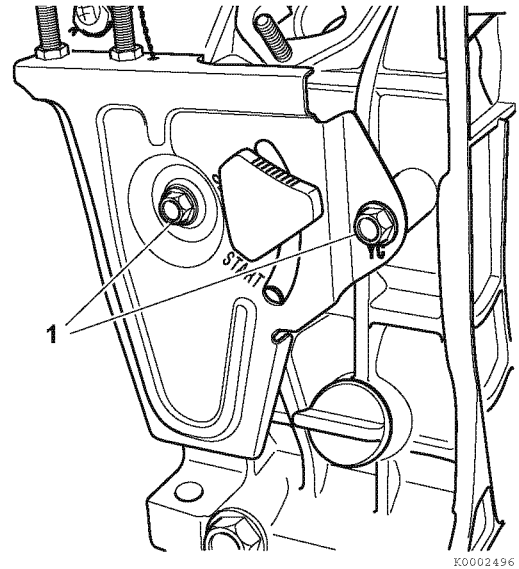

Figure 6-83
1. Remove the bolts (1, **Figure 6-83**) that retain the speed control assembly.